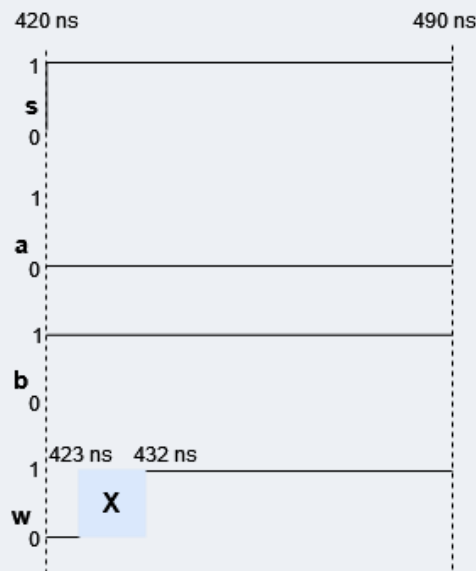

Figure 2.7
- **420 to 490 ns:** As the value of “s” changes to 1, T2 will propagate 0 in 4 ns, but the pMOS will propagate Z after 7 ns. Then, T3 will propagate Z in 5 ns and T4 will propagate 1 in 3 ns. So, the output won’t change in first 3 ns till T4 propagates 0, after that we’ll get a X-value on the output until T3 propagates Z, this time will be **12 ns** at all (7 ns for the T1 and 5 ns for the T3). Actually, this is the worst-case delay of output making To-1 transition. (fig. 2.7)